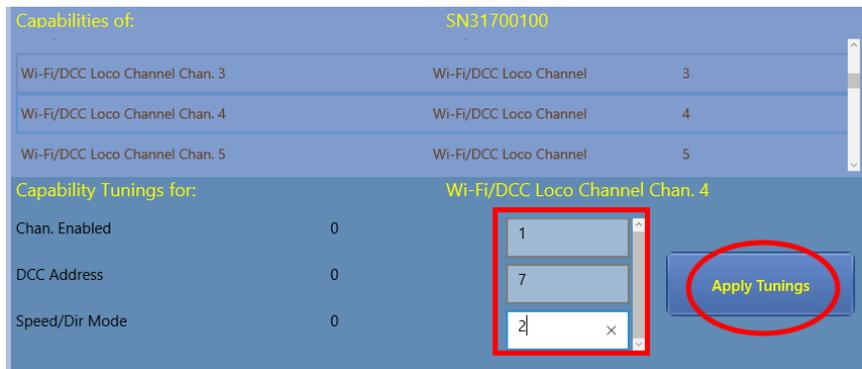

Figure 23 Enabling a new locomotive channel in the WFD-25
Figure 23 shows how more locomotive channels, in addition to the default four, are enabled. To do this:
- (1) Select a Wi-Fi/DCC channel that has not been enabled, such as channel 4 in Figure 23.
- (2) Set the Chan. Enabled, new value, to 1 as in the textbox, outlined in red.
- (3) Set the DCC address to one that has not been already associated with a channel, such as 07 in this case, the default first four channels being associated with 03, 04, 05, and 06.
- (4) Set the Speed/Dir mode to 2. It is unlikely that you have a decoder that only accepts 28 speed steps.
- (5) Click or tap the Apply Tunings button. A pop-up should appear indicating that tunings have been sent to the controller.
- (6) Back on Loco Operator, you will need to scan again for locomotives to discover the new channel.
- (7) You may need to place the locomotive that you want assigned to the new channel on the program track and synchronize the DCC addresses (see Section “Assigning DCC Addresses to the Locomotive Roster Channels”)